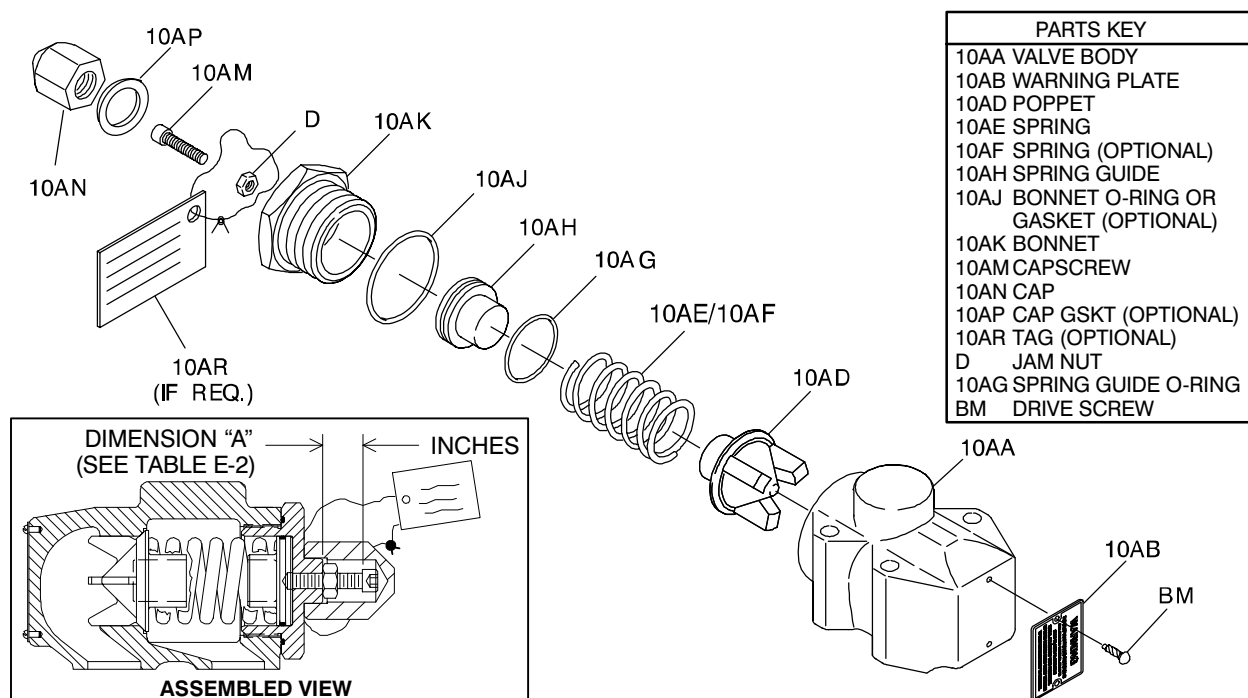

Figure E-7. Pressure Relief Valve Assembly
(Figure E-7)
Install the jam nut (D) on the adjustment cap screw (10AM), and thread the cap screw into the bonnet until the desired height ("A", Figure E-7) is reached. Refer to the separate Parts List accompanying your pump, and determine the specific hydraulic size (D, G, J, etc.). See Table E-2 and adjust the cap screw (10AM) to the proper "A" dimension for desired cracking pressure.
| PUMP HYDRAULIC SIZE** | SINGLE SPRING OPTION CODE | CRACKING PRESSURE (PSI) | DIMENSION "A" (INCHES) Fig. E-7) | DOUBLE SPRING OPTION CODE | CRACKING PRESSURE (PSI) | DIMENSION "A" (INCHES) Fig. E-7) |